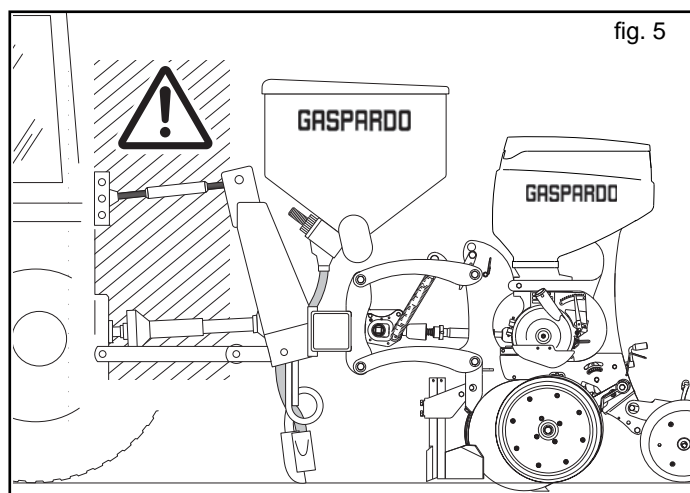

fig. 5
- 5) It is absolutely forbidden to stand between the tractor and linkage for manoeuvring the lifting con-trols from the outside (Fig. 5).
- 6) It is absolutely forbidden to stand in the space between the tractor and the equipment (Fig. 5) with the engine running and the uni-versal joint linked up and without the hand brake pulled and a block placed under the wheels to block them.